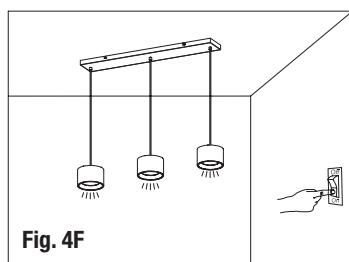

Fig. 4F
4. Check the reliability of the installation on then turn on the power to confirm that the luminaire lights up normally (Fig. 4F).